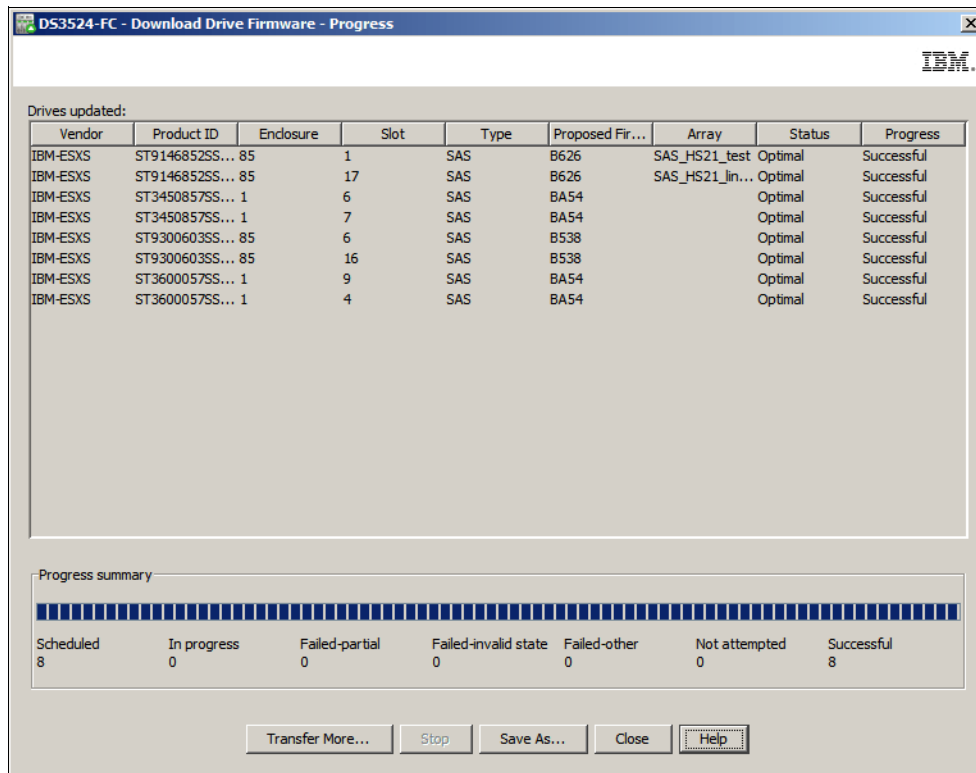

Figure 14-89 Drive update complete
- After the update completes, a summary is displayed (Figure 14-89). If you want to update more drives, click **Transfer More** to select the compatible packages. Otherwise, click **Close** to exit the drive update window.